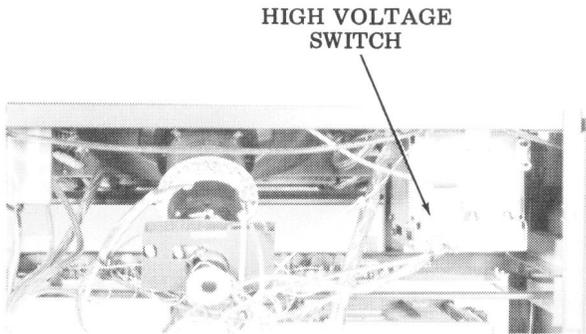

Figure 6 - High Voltage Power Supply
- (c) Be sure that the high voltage power supply switch (Figure 6) is in the ON position.